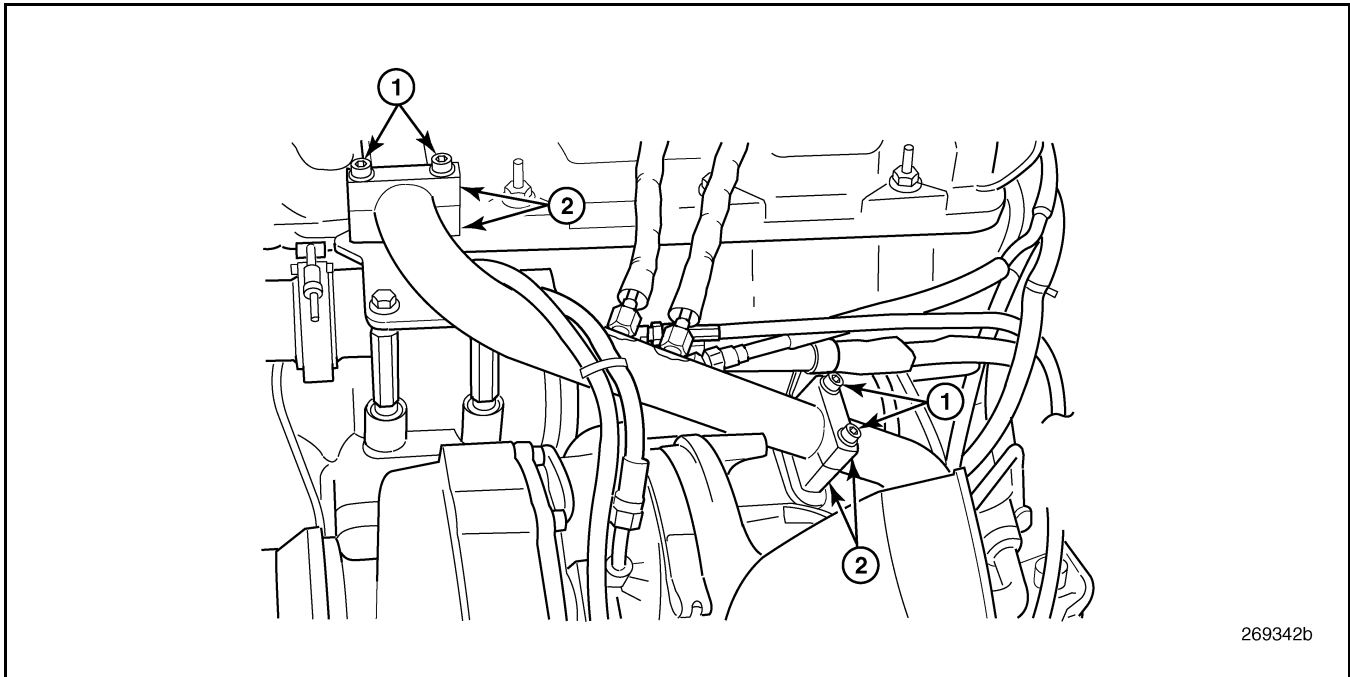

Figure 484 — Cool Tube Clamps
2. Loosen and remove the clamps securing the cool tube to the brackets at the EGR valve and the front section of the exhaust manifold (Figure 484).